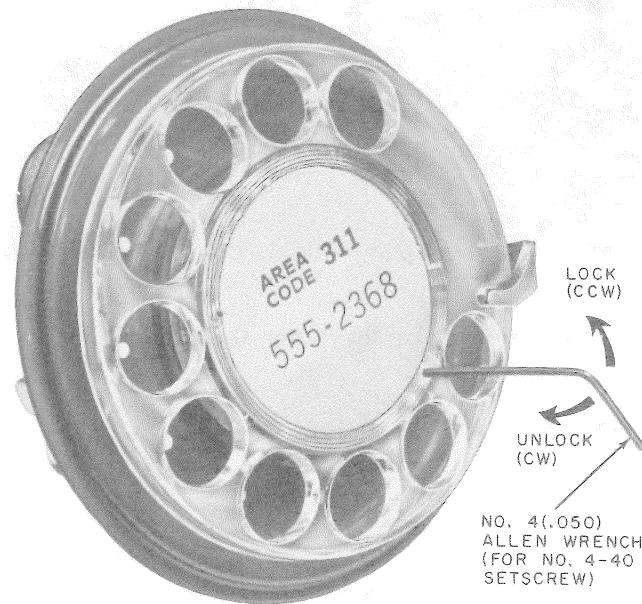

Fig. 27—Installing Fingerwheel on 8U or 8W Dial
- (1) Refer to Fig. 27, use a No. 4 (.050) Allen wrench and turn the setscrew in a clockwise direction until it clears fingerwheel.
- (1) Ensure that setscrew is all the way in (clockwise).
- (2) Place fingerwheel on dial with operator hole over the 9 position.
- (3) Rotate fingerwheel counterclockwise until it is in its normal position.
- (4) Using a No. 4 (.050) Allen wrench, turn the setscrew in a counterclockwise direction until the stop is reached (Fig. 27).